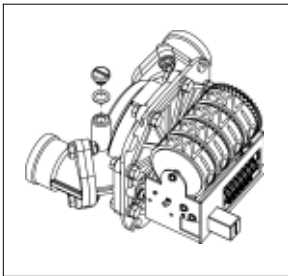

Figure 5
- a. Gain access to the recessed calibration screw by turning the calibration screw cover and seal counterclockwise. Remove the cover and nylon washer. (Figure 5)